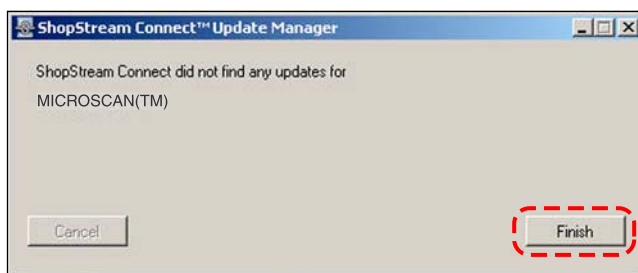

Figure B-12 Sample no updates available screen
- a. If no updates are available, a screen similar to Figure B-12 displays. Select **Finish** to close the Update Manager, then skip ahead to Step 7.